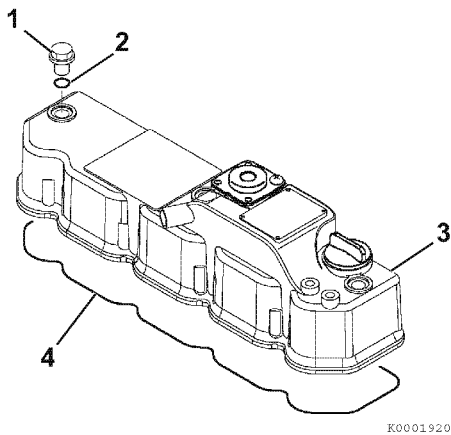

Figure 6-37
1. Lightly grease a new valve cover gasket (4, **Figure 6-37**). Place the gasket in the groove of the valve cover (3, **Figure 6-37**).
3. Be sure new O-rings (2, **Figure 6-37**) are installed on the valve cover nuts. Reinstall and tighten the valve cover nuts (1, **Figure 6-37**).